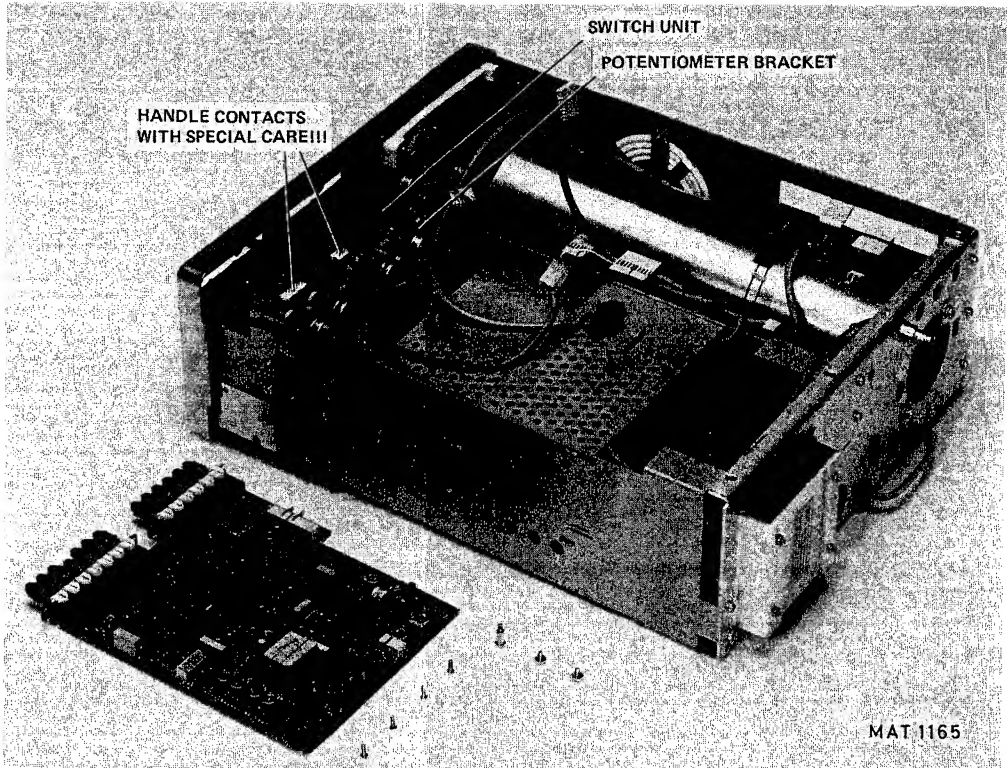

Fig. 6.4. Time-base unit removed
- CHECK THAT THE CONTACTS AND THE POSITION-PINS OF THE SWITCH UNIT ARE FREE FROM THE TIME BASE UNIT IN ORDER TO PREVENT THAT THE CONTACTS ARE BEND IF THE UNIT IS TAKEN OUT OF THE INSTRUMENT (see fig. 6.4.).